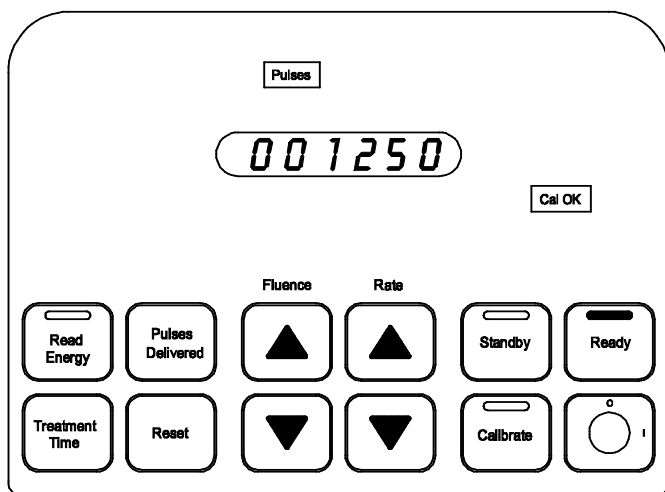

Figure 12
9. While the Excimer Laser System is lasing, the number of pulses delivered during a procedure is accumulated. To retrieve the total number of pulses delivered, stop lasing and depress the **Pulses Delivered** button. The count is visible in the display window. (Figure 12)